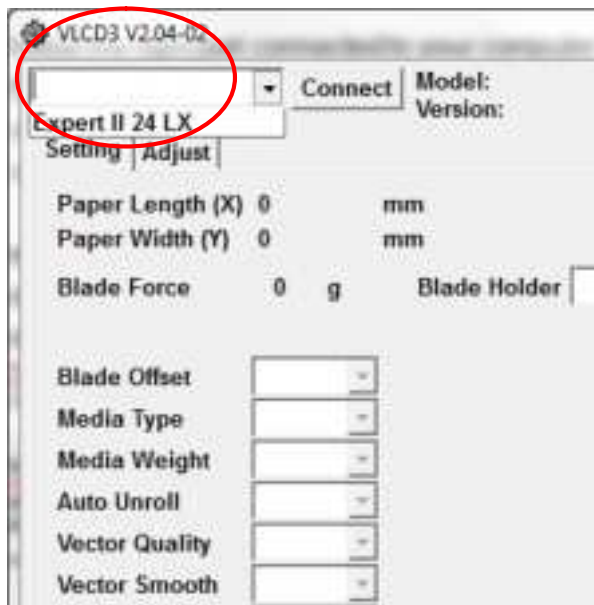

Figure 3-2
Step 3 Choose the right port connected to your computer (Figure 3-2).